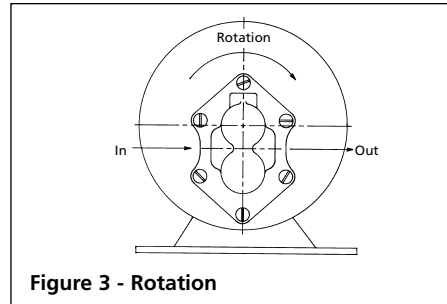

Figure 3 - Rotation
Rotation: When looking at the motor shaft end, proper motor pump rotation is clockwise (CW). Flow is left to right (See Figure 3). Reverse the flow by rotating the pump 180°. **NOTE:** Pump can be rotated 360° on motor.
3. Recheck motor rotation. Proper motor/pump rotation is clockwise (CW) looking at the motor shaft (See Figure 3).
4. On all models, a separate pressure relief valve (not supplied) is always on discharge side when installed (See Figure 3).